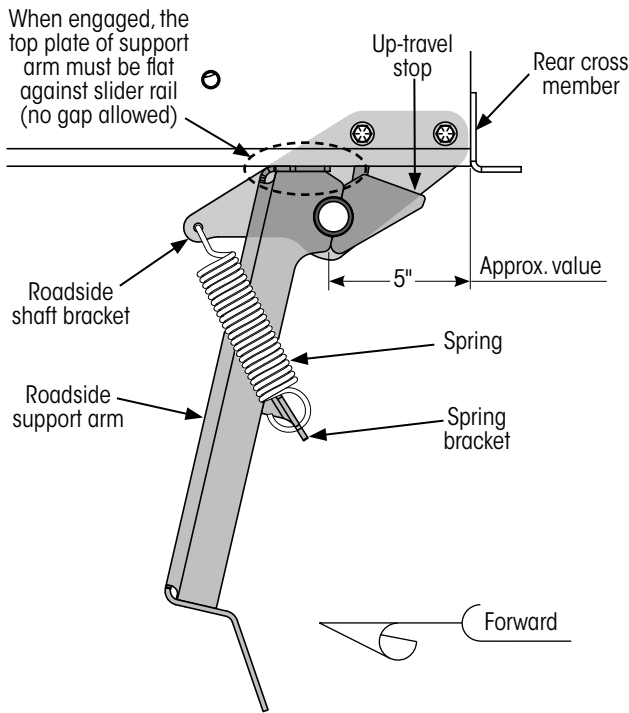
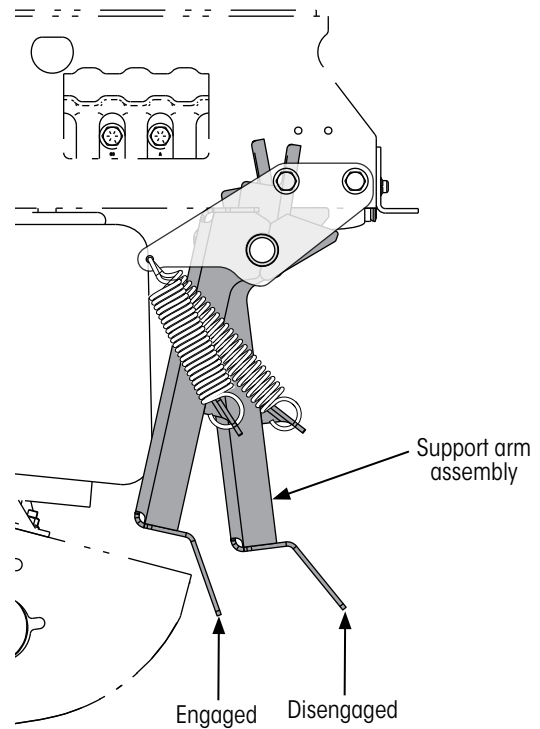

Figure 22: Verifying support arm assembly position
Figure 23: Checking support arm assembly movement
NOTE: At this time, spring tension should be holding the roadside support arm top front edge against the slider rail (Figure 22).
- A. **Pull** roadside support arm toward the disengaged position and **lift** shaft up so the top surface of the support arm is flat against the bottom surface of the slider rail (Figure 22).
9. **Verify** the top surface of the support arms are flat against the underside bottom surface of the slider rails and there is no gap (Figure 22) between the top of each support arm and the slider rail.
10. **Measure** between the rear crossmember and the back edge of both arms (Figure 22). This measured distance should be approximately five inches.
12. **Manually move** support arm assembly (Figure 23) between disengaged up-travel stop (Figure 22) and fully engaged positions to ensure support arms move freely without binding.